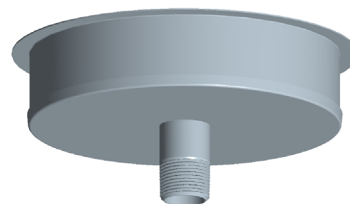

Figure 41: Drain Tee Cap (DTC)
The Drain Tee Cap (DTC) is used as a drain for the base of vertical installations and must be connected to a suitable disposable point. It can also be used as an access for clean outs or access purposes. (See **Figure 41**) Same installation as a Tee Cap (TC).